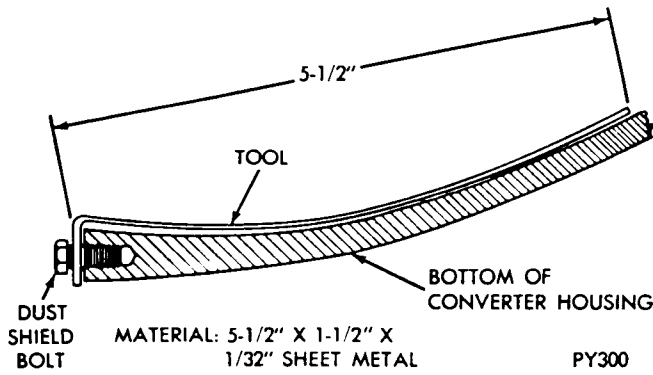

Fig. 4—Leak Locating Test Probe Tool
- (1) Remove torque converter housing dust shield.
- (2) Position vehicle with front lower than back so that accumulated fluid in torque converter housing will drain out. Wipe inside of torque converter housing as dry as possible. A solvent spray followed by compressed air drying is recommended.
- (3) Fabricate and fasten test probe (Fig. 4) securely to convenient dust shield bolt hole. Make certain torque converter is cleared by test probe. Tool must be clean and dry.
- (4) Run engine at approximately 2,500 rpm with transmission in neutral, for about 2 minutes. Transmission must be at operating temperature.
- (5) Stop engine and carefully remove tool.
- (6) If upper surface of test probe is dry, there is no torque converter leak. A path of fluid across probe